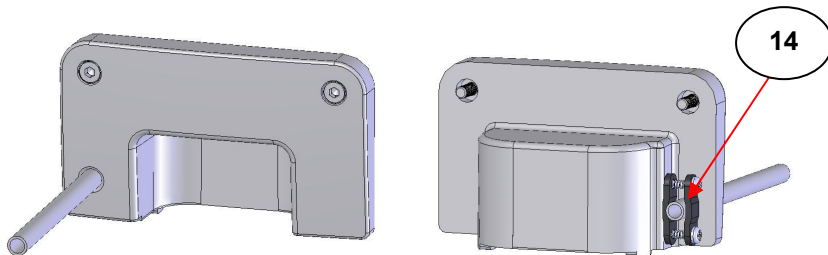

Fig 9. Front Cover Plate with Purge Tube – Front and Back Views
On the front cover plate (5) there is small hole (13) into which 1/4" O.D. hard plastic tubing can be inserted to provide a gas supply such as N₂ that creates a purged environment within the Quest ATR optical unit. The tubing is introduced through the front of the hole (13) and is held fast by two small curved grip plates (14). (See Fig 9.)